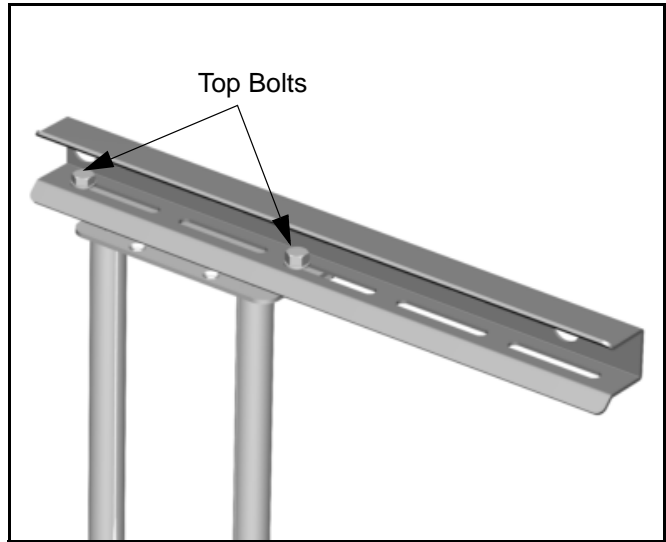

Figure 13: Adjust- Left of Center
2. Remove four bolts (two on the top and two on the bottom) securing the swing arm assembly to the top and bottom mounting brackets (See figure 13).
- For Left of Center, see Figure 13.
5. Install four bolts (two on the top and two on the bottom) to secure the swing arm assembly to the top and bottom mounting brackets (See figure 13).